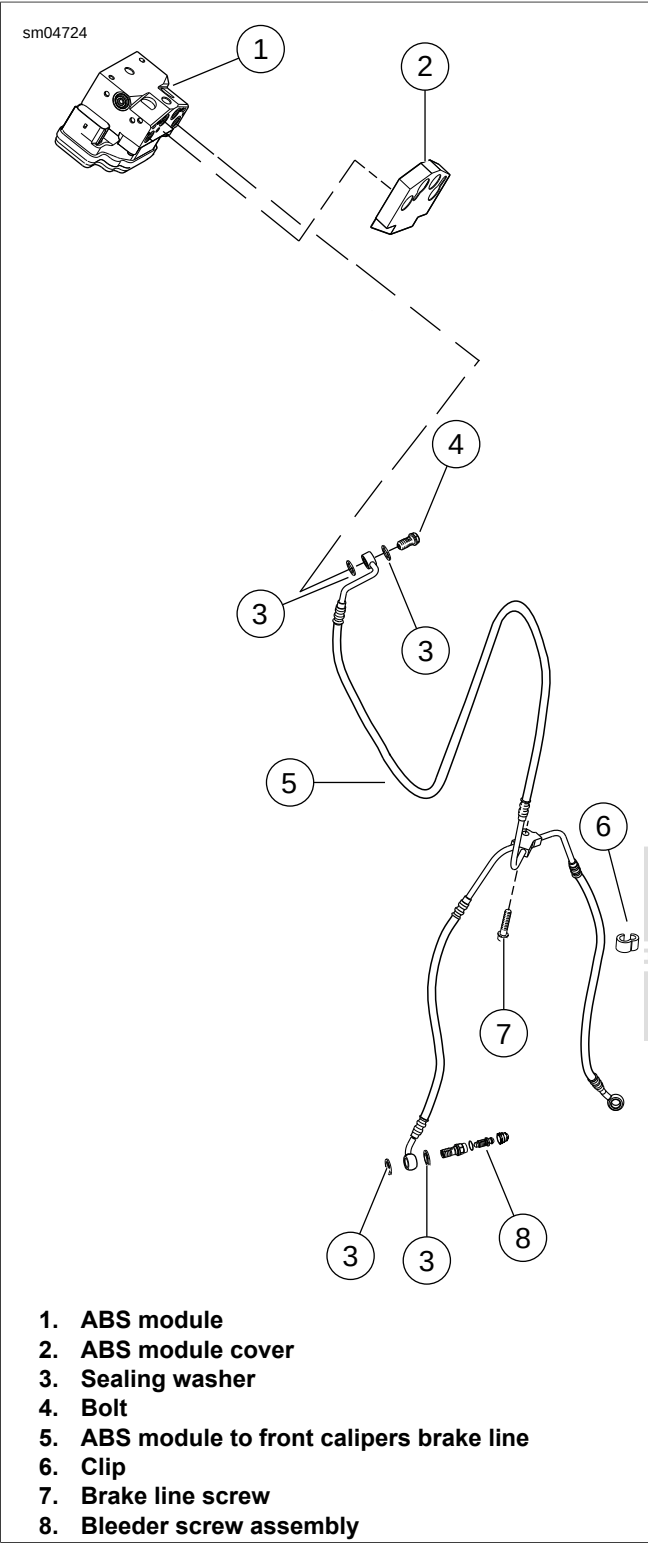

Figure C-13. ABS Module to Front Brake Calipers Brake Line
3. Remove clips (6) from brake hose/ABS sensor cables.
5. See Figure C-13. Remove banjo bolt (4) to release brake line from F port of ABS module. Discard washers (3).
6. Remove complete bleeder screw assemblies (8) to release brake lines from front calipers. Discard washers (3).
7. Remove screw (7) and remove brake line assembly from motorcycle.